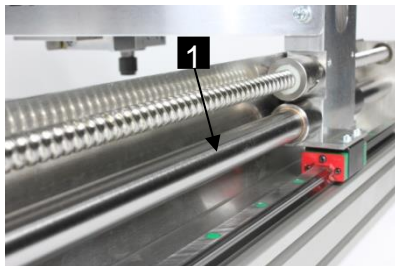
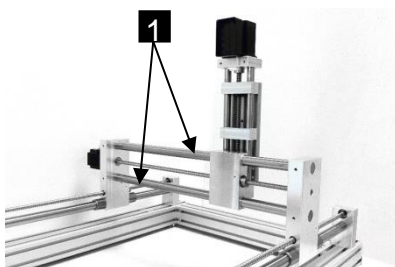

Figure 28: linear guides of the X-and Z-axis
Figure 30: Linear guide the Y-axis
- 2 Grease the linear guides of the X-axis (Fig. 28/1), the Z-axis (Fig. 30/1) well using a low-friction grease wetted cloth DIN 61650 or alternatively apply the fat with a suitable brush.
- 4 Grease the linear guides of the X-axis (Fig. 30/1) well using low-friction grease soaked cloth DIN 61650 or alternatively apply the grease with a suitable brush